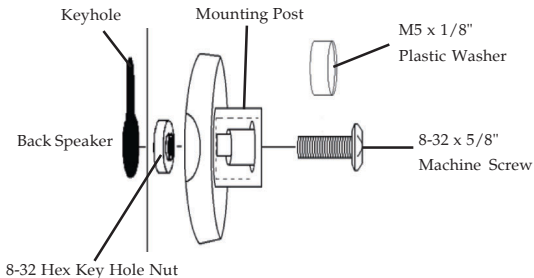

Figure 4
- Loosely pre-assemble the mounting post with the 8-32 x 5/8" machine screw and hex key hole nut, see **Figure 4** below.
4. Put tension on the assembly by gently pulling back on the speaker mount post while tightening the 8-32 x 5/8" machine screw, see **Figure 4** on page 5.
6. If the post does not tighten securely against the housing, it will be necessary to use the M5 x 1/8" plastic washer as a spacer under the head of the 8-32 x 5/8" machine screw, see **Figure 4** on page 5.